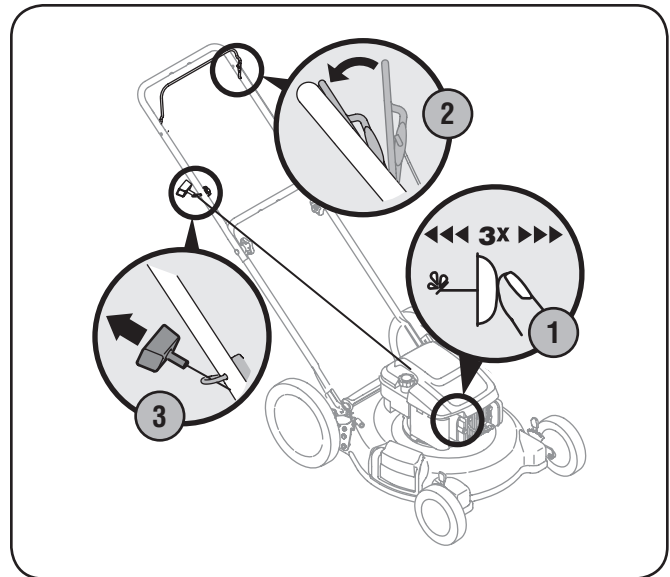

Figure 5-1
1. If equipped, push primer three times (Kawasaki - one time). Wait about two seconds between each push. See Fig. 5-1. In temperature around 55° F or below, prime five times. Do not prime to restart a warm engine.
3. Holding these two handles together firmly, grasp recoil starter handle and pull rope out with a rapid, continuous, full arm stroke. See Fig. 5-1. Keeping a firm grip on the starter handle, let the rope rewind slowly. Repeat until engine cranks. Let the rope rewind each time slowly.